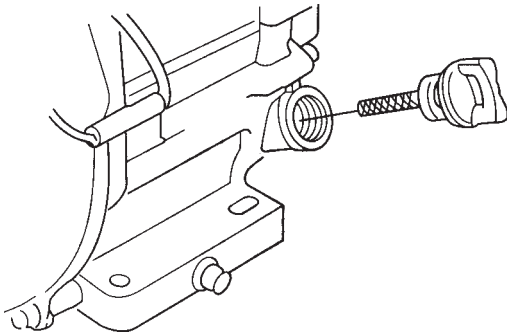

Figure 3. Engine Oil Dipstick (Removal)
2. Remove the filler dipstick from the engine oil filler hole (Figure 3) and wipe clean.